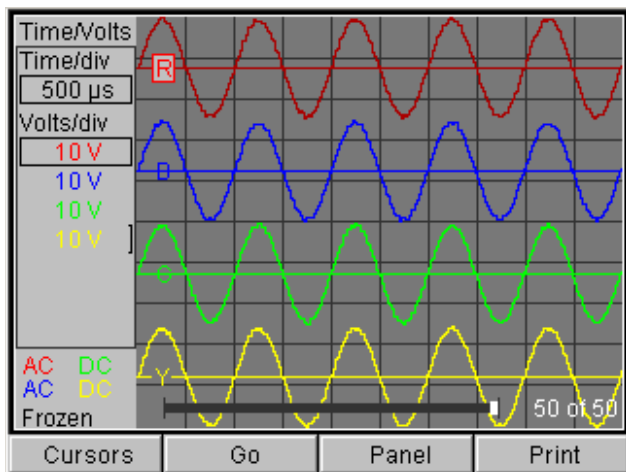
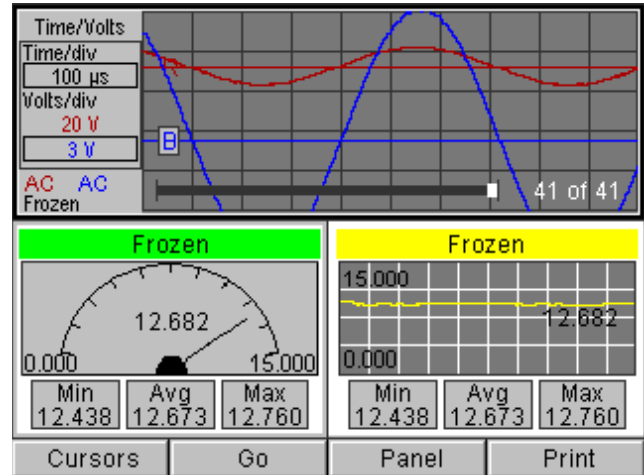
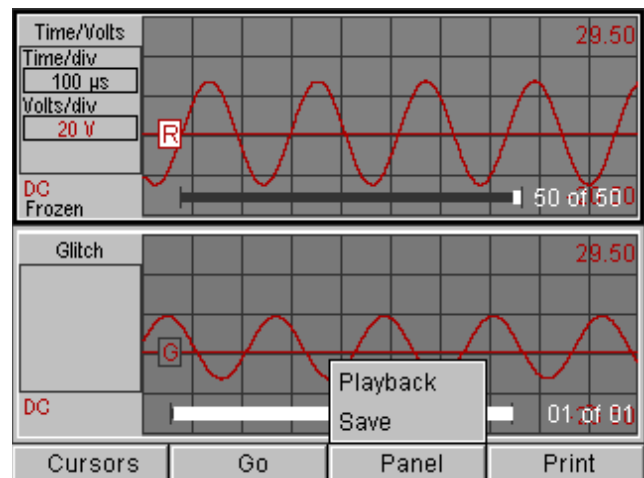

Figure 7.36: Lab Scope Screen, DMM Off - Frozen Screen
Figure 7.37: Lab Scope Screen, DMM On - Frozen Screen
Figure 7.38: Lab Scope Screen, Glitch On - Frozen Screen
- 1 Press the **Freeze** function key. This stops all readings and “freezes” all the displayed panels, as shown in Figure 7.36, Figure 7.37, and Figure 7.38.